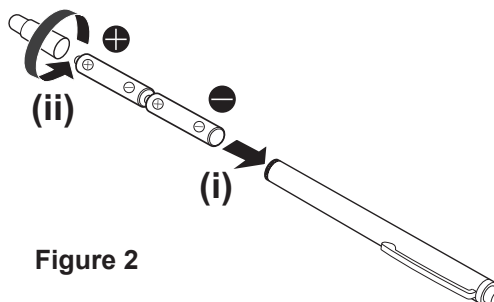

Figure 2
- 2) Install batteries in the direction as shown in Figure 2 and rotate the cap of the pen in the reverse direction to close.